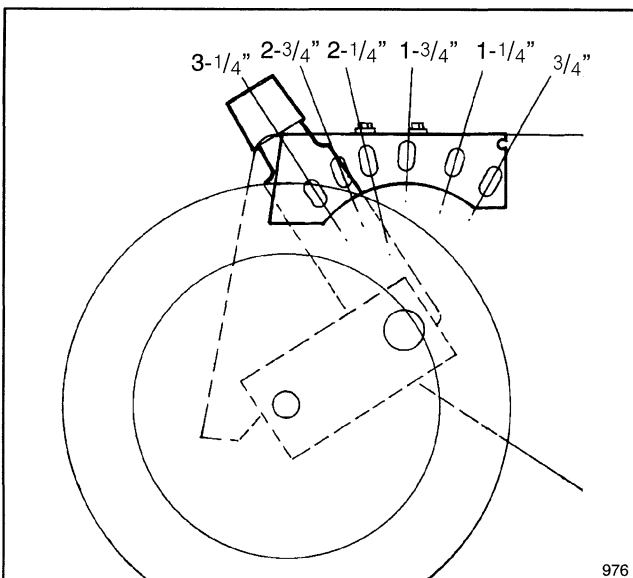

Figure 8
- Grass grows at different rates at different times of the year. In the heat of the summer, it is generally best to cut grass at the 1-3/4", 2-1/4" or 2-3/4" height-of-cut settings (Fig. 8). Only about 1/3 of the grass blade should be cut off. Cutting below the 1-3/4" setting is not recommended unless grass is sparse or it is late fall when grass growth begins to slow down.